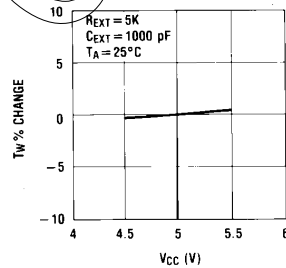
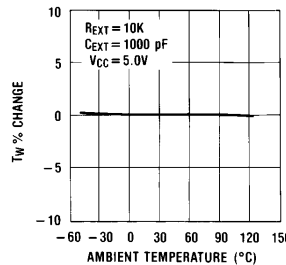

FIGURE 5
FIGURE 6
7. Output pulse width versus V_{CC} and temperatures: Figure 5 depicts the relationship between pulse width variation versus V_{CC} . Figure 6 depicts pulse width variation versus temperatures.